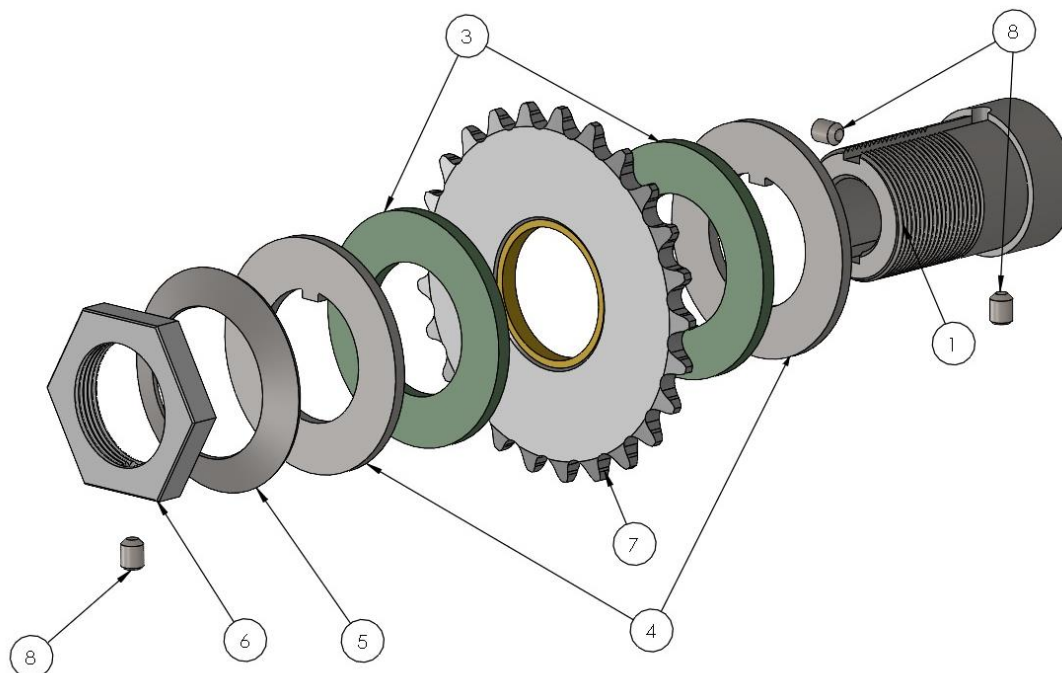

Figure 1
Refer to Figure 1 and the accompanying bill of materials for information on the individual parts of the torque limiting friction clutch.
- Replacement parts available from the Hersey Clutch Company. Refer to exploded view in Figure 1 for items.